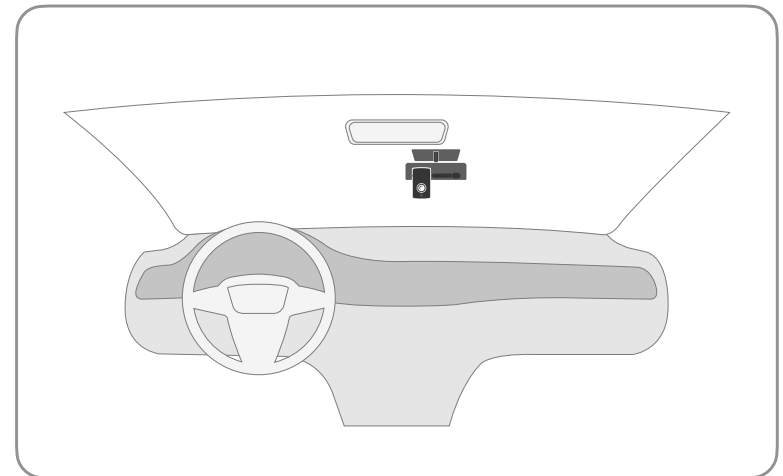

Fig. 2 Offset mount
- If the center of the windshield is an obstruction to the driver's line of vision the FC Pro can be offset towards the passenger side of the windshield (see figure 2 for reference). **Maximum offset measurement allowed is 4 inches (10.16cm).**